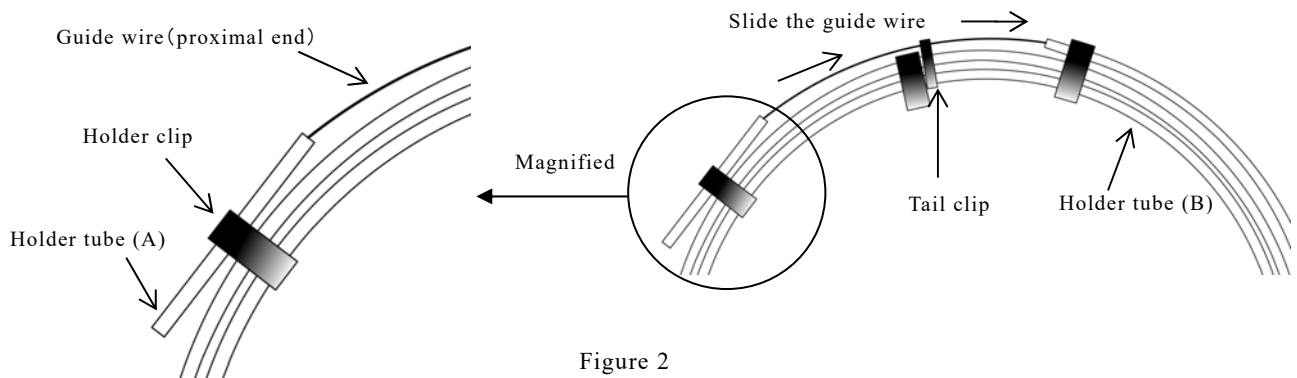
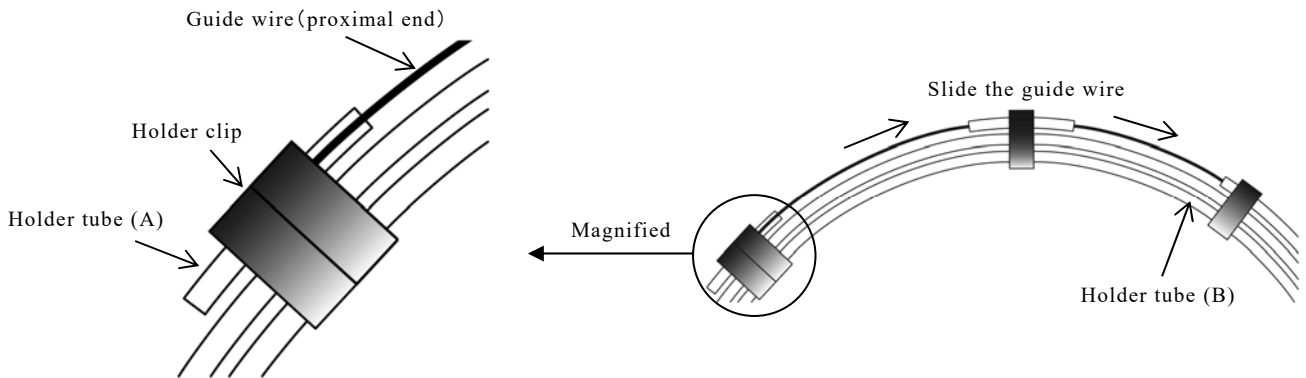

Figure 2
Figure 3
- For the guide wire which proximal end is fixed between the holder clip and holder tube (A), the guide wire may be bent when removed without releasing the proximal end from the holder tube retaining it (A). Remove the holder tube from the holder clip before the guide wire is handled. (Ref. How to use, Figure 2)
- c) Release the guide wire from the tail clip and slide the guide wire slowly, push distal end of the guide wire through the holder tube(B).(Figure 2) For the guide wire whose proximal end is fixed between the holder clip and holder tube (A), remove the holder tube from the holder clip and slide the guide wire slowly, push distal end of the guide wire through the holder tube(B). (Figure 3)